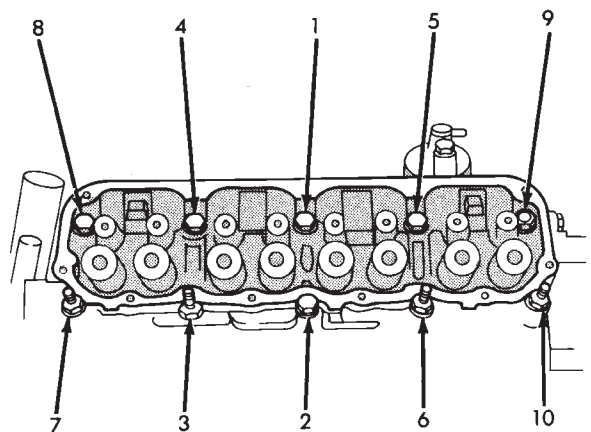

Fig. 35 Engine cylinder head Bolt Tightening Sequence
(10) Tighten the engine cylinder head bolts in sequence according to the following procedure (Fig. 35):